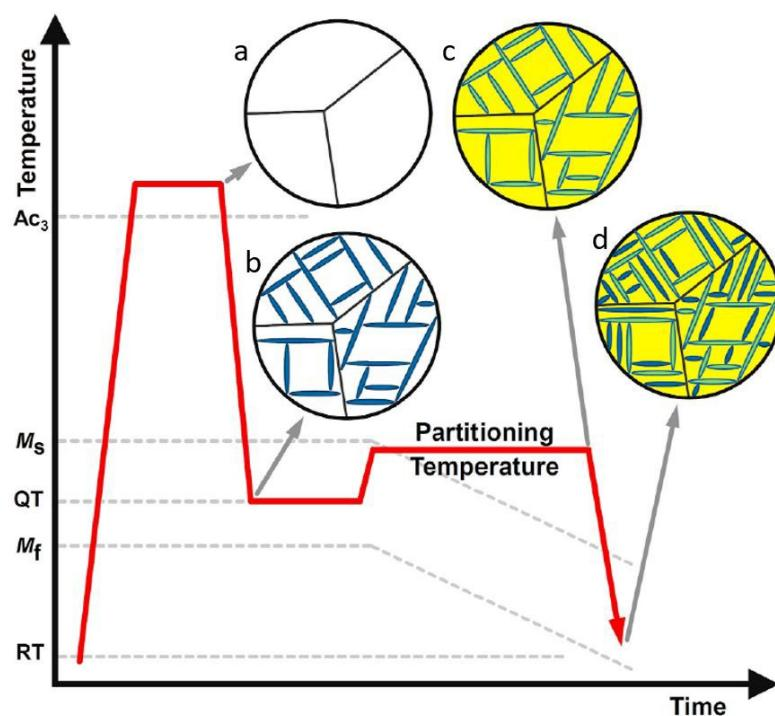

Figure 4. Schematic of the heat treatment process of a Q&P steel;
c) Quenched and Partitioned (Q&P) steels belong to the 3rd generation AHSS. In general, Q&P steels have a composition of 1-1.5 wt.% Mn, 0.1-0.3 wt.% C, and 0-1.5 wt.% Al. Figure 4 demonstrates the heat treatment of a Q&P steel.
- What are the phases shown in the microstructures of a-d in Figure 4? Explain briefly what happened during the "partitioning" process. Why did the temperatures M_s and M_f decrease during partitioning? (3P)
- The volume fraction of the retained austenite at stage "d" in the above Q&P steel was observed to first increase and then decrease with increasing quench temperature (QT in Figure 4). Provide a possible explanation for this phenomenon. (2P)